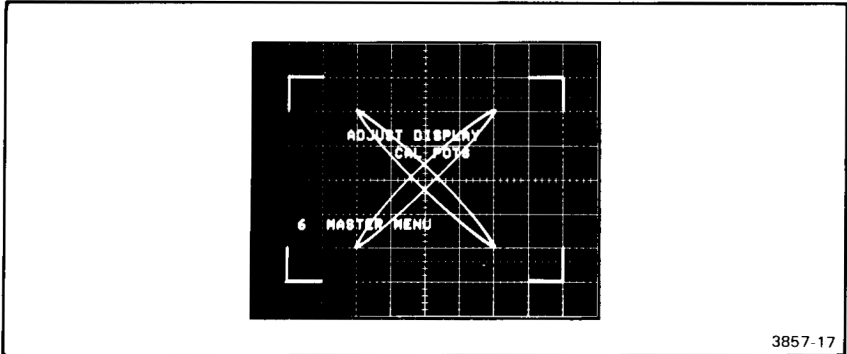

Figure 2-9. Adjust VERT CTR and VERT GAIN.
- Step 4** Adjust the VERT CTR (vertical center) and VERT GAIN (vertical gain) controls to align the upper and lower horizontal edges with horizontal lines 1 and 7 of the display graticule as shown in Figure 2-9 (bottom graticule line is 0). As with the HORIZ CTR and HORIZ GAIN controls, these vertical adjustments are interactive and may require that you work back and forth between them to optimize this adjustment.